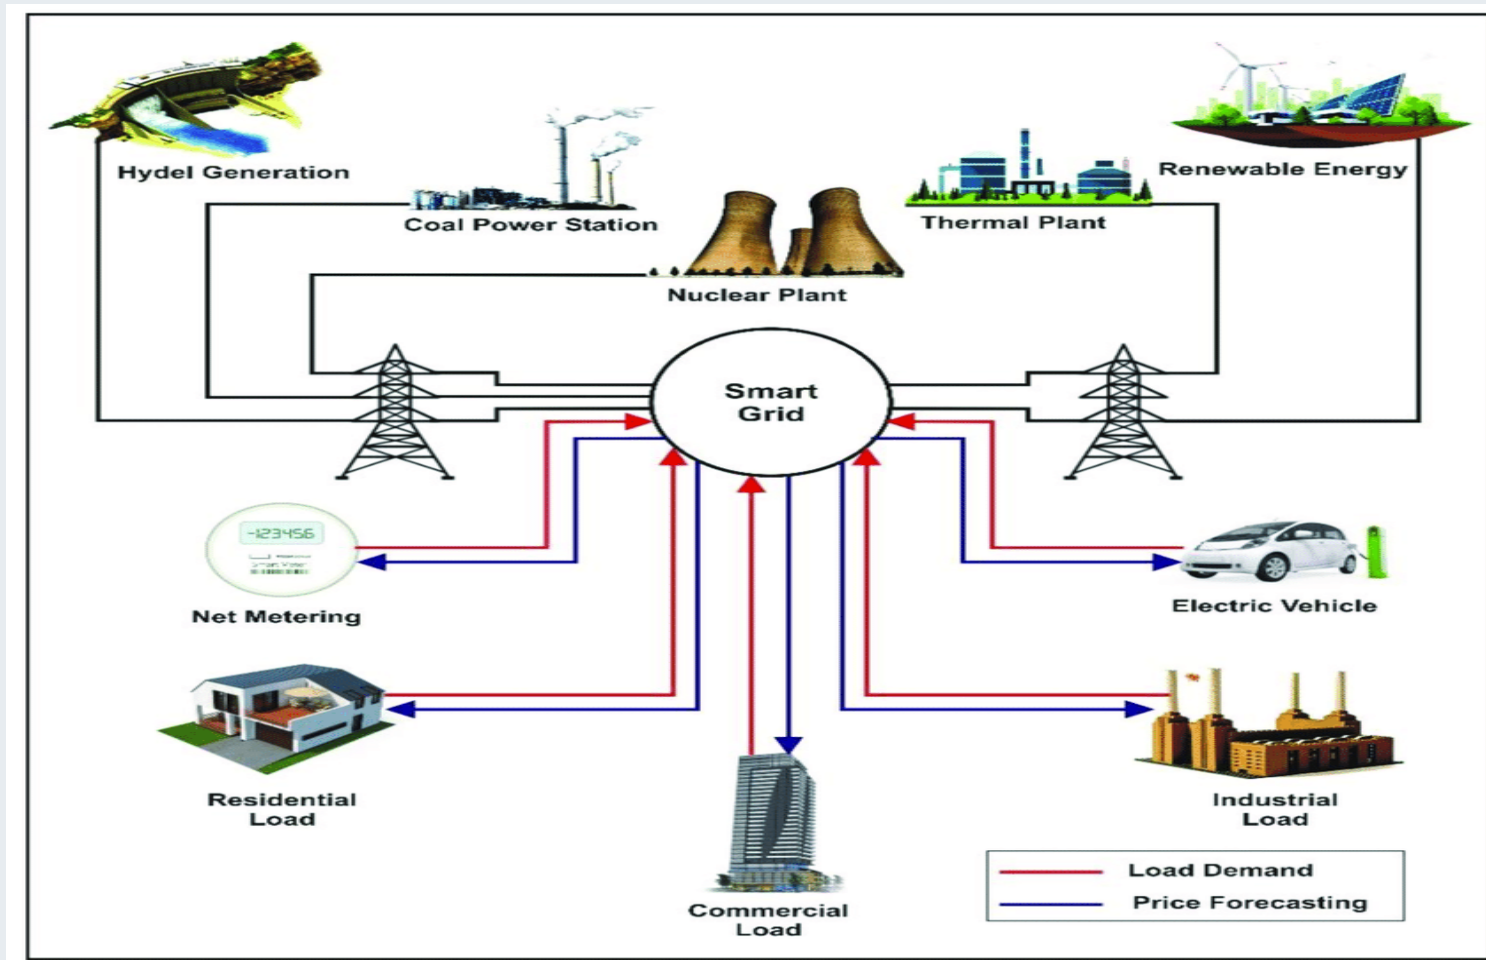

Figure 5: Modern power network structures[4].
- Finally, the overall power network diagram is presented in Fig.5